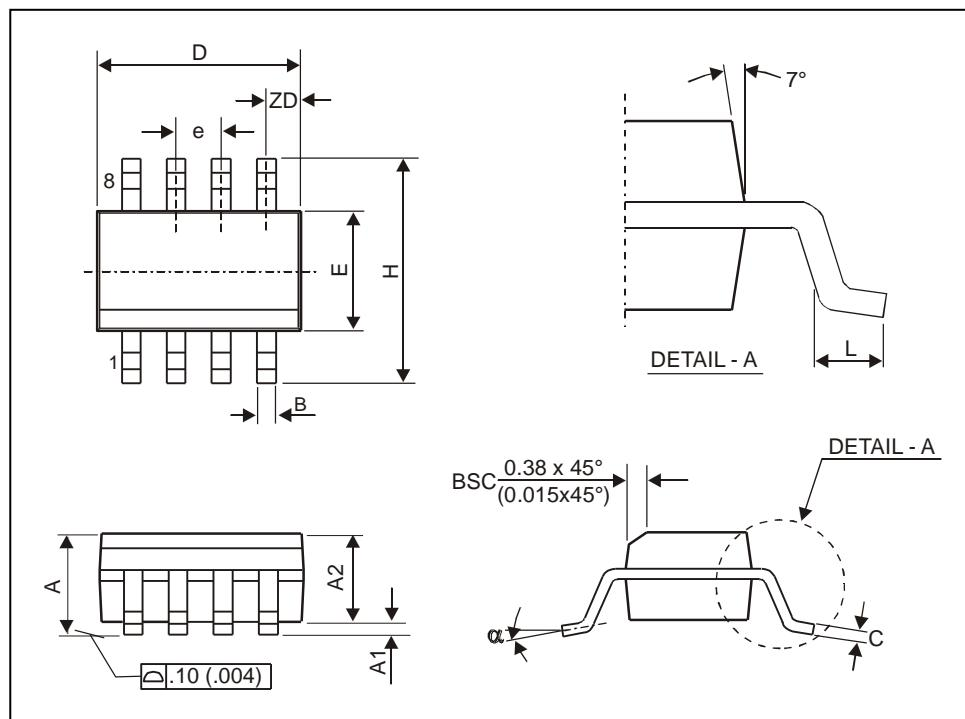

Fig. 18: SOIC8 (Small Outline Integrated Circuit)
typical values at $T_A = 23^\circ\text{C}$ and $V_{CC} = 3\text{ V}$; test circuit shown in Fig. 18, $f_c = 315\text{ MHz}$
6.1. Test circuit component list to Fig. 18